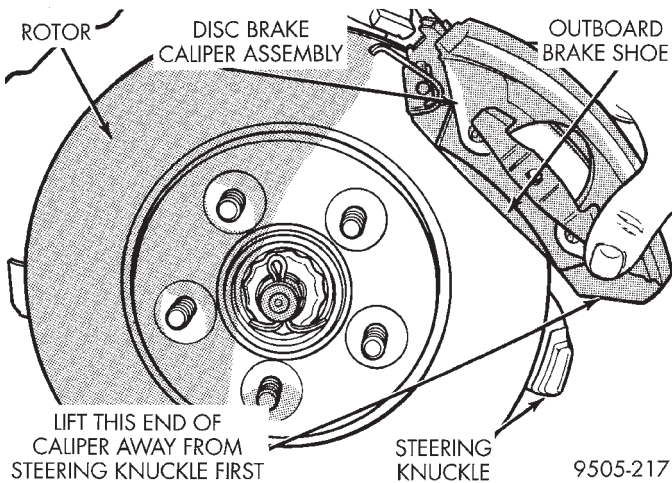

Fig. 48 Removing Brake Caliper
(5) Remove brake caliper from steering knuckle, by first rotating bottom of brake caliper away from the steering knuckle. Then slide top of brake shoes down and out from the top machined abutment on steering knuckle (Fig. 48).